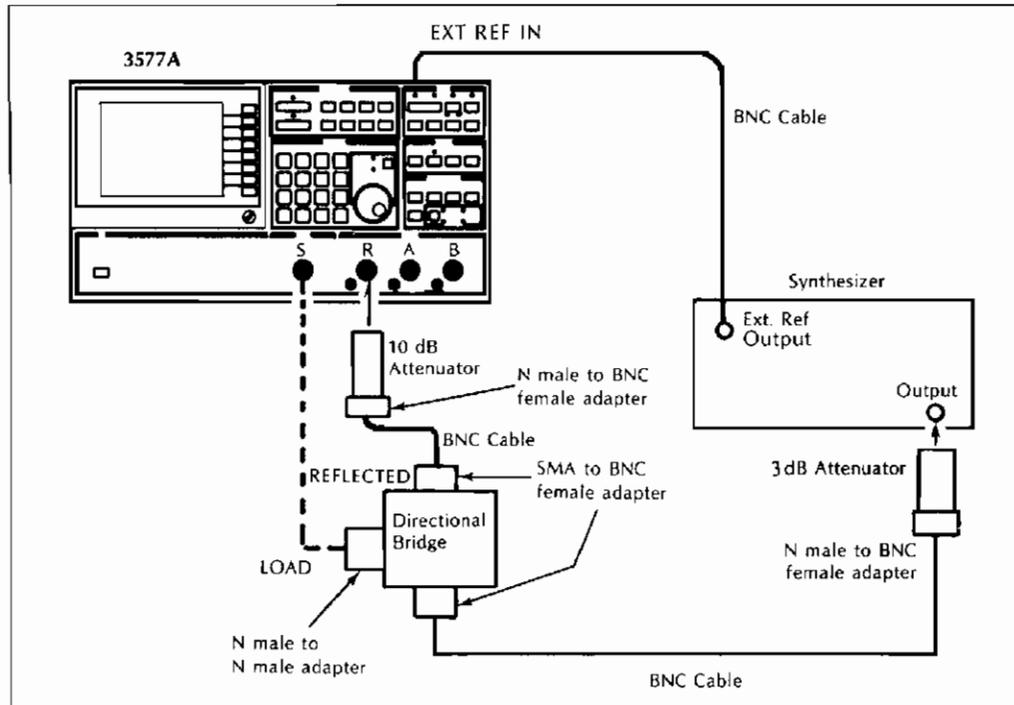

Figure 4-1. On Carrier Return Loss Adjustment Test Set Up
- b. Connect the equipment as shown in Figure 4-1 except leave the A8 Source Output to the directional bridge unconnected.